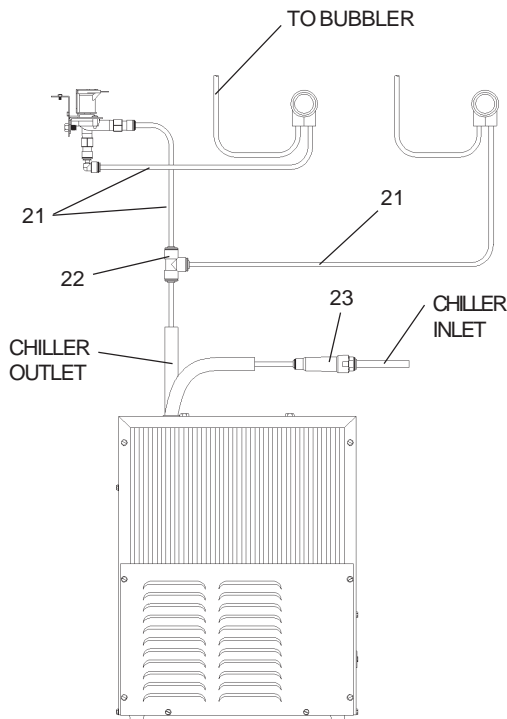
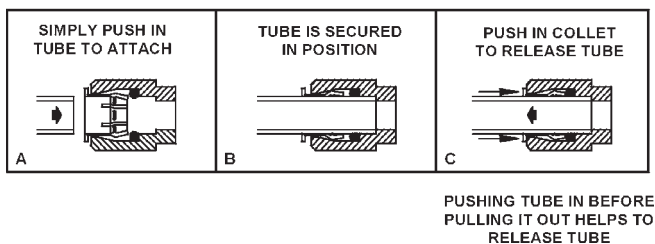

Figure 3 - ENO Tube Routing
Figure 13 – Quick Connect Fittings
- 3. Make water supply connections.** Inlet port is marked on the chiller (1/4" O.D. copper tube). Bend the copper tube (provided) at an appropriate length from the chiller to opening in frame. Install the in-line strainer (provided with chiller) by pushing it in until it reaches a positive stop, approximately 3/4" (19mm) on the marked chiller inlet port (See Figs. 3) (Refer to Fig. 13 on page 7 for details on assembling quick connect fittings). Attach an unplated and deburred copper water inlet line and a service stop (not provided) to the chiller. Turn on the water supply and flush the line thoroughly.
- 4. Make connection between remote chiller outlet tube and solenoid valve assembly.** Outlet port is marked on the chiller (1/4" O.D. copper tube). Install a 1/4" tee (provided) on the marked chiller outlet port. Insert one end of 1/4" poly tubing into the tee and the other end into the straight fitting on the solenoid valve assy. (See Fig. 3)
9. **Make connection between solenoid valve assembly and fountain(s).** Insert the 1/4" poly tubing coming from the fountain with sensor into the solenoid valve. Insert the 1/4" poly tubing coming from the fountain with push button into the tee (See Fig. 3).
**Actuation of Quick Connect Water Fittings:** Cooler is provided with lead-free connectors which utilize an o-ring water seal. To remove tubing from the fitting, relieve water pressure, push in on the gray collar while pulling on the tubing. (See Figure 13) To insert tubing, push tube straight into fitting until it reaches a positive stop (approximately 3/4").